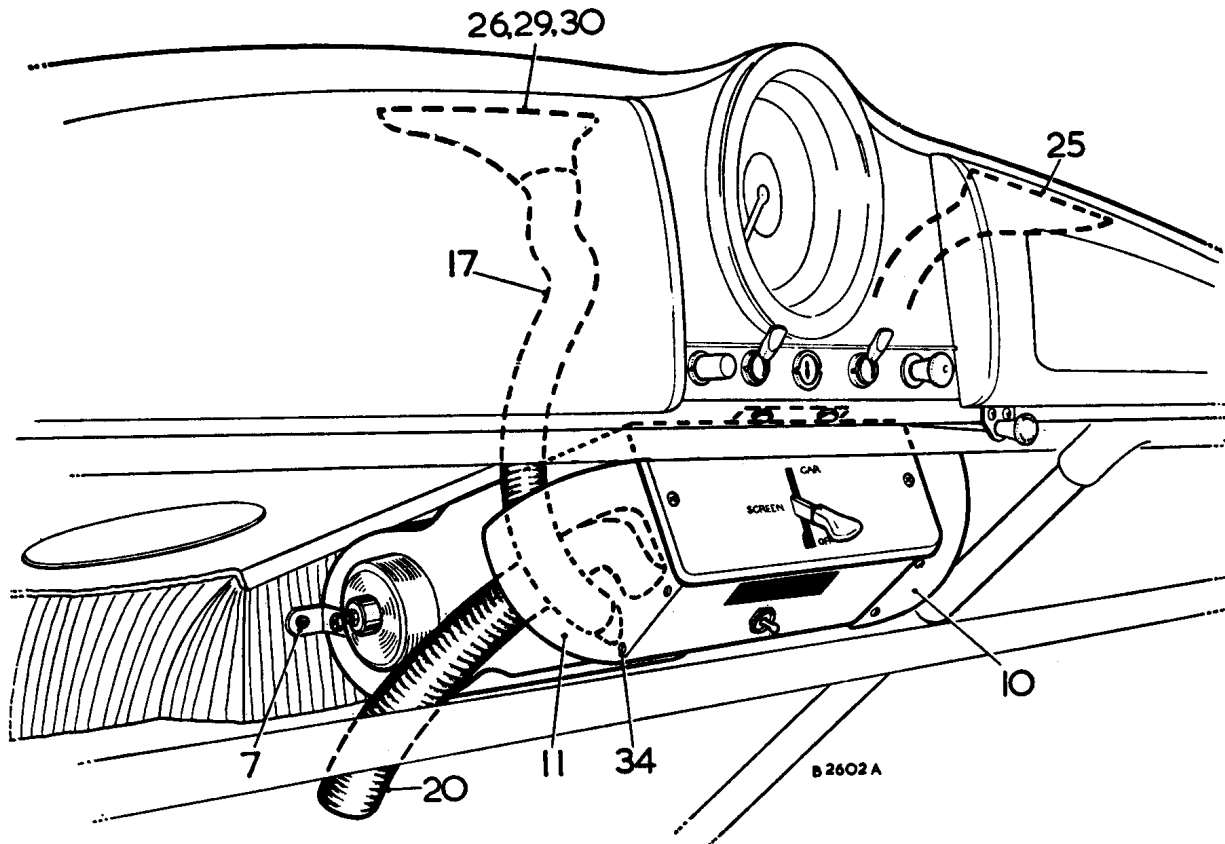
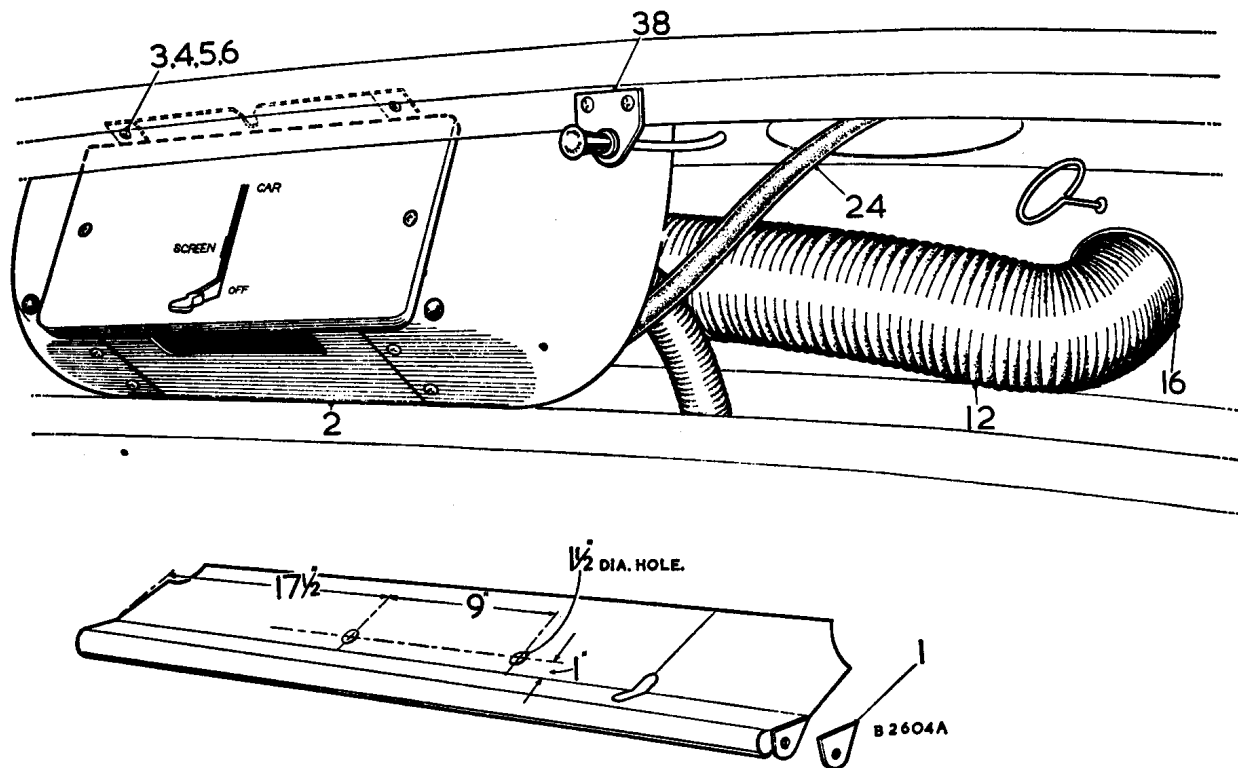

Fig. SS.4
Fig. SS.6
NOTE.—The numbers referred to in the text of this Section are to be found in Figs. SS.4 to SS.7.
Push the large diameter air hose (12) over the heater air intake (Fig. SS.6) and secure it with a clip. Push the water hose (18) over the upper heater pipe, and the water hose (24) over the lower heater pipe and secure both hoses with clips (32). Assemble the mounting brackets (7) to the studs projecting from the heater side cover (Fig. SS.4) using the nuts and washers provided.
Position the heater below the fascia panel (see Figs. SS.4 and SS.6), bending the lip of the fascia forward to clear the heater panel and push the air and water hoses through the bulkhead grommets. Loosely fix the heater in position using No. 10 screws, plain washers, spring washers, and nuts (3), (4), (5), and (6), and secure the heater mounting brackets (7) to the weld-studs projecting from the battery box using nuts and spring washers (9) and (8).